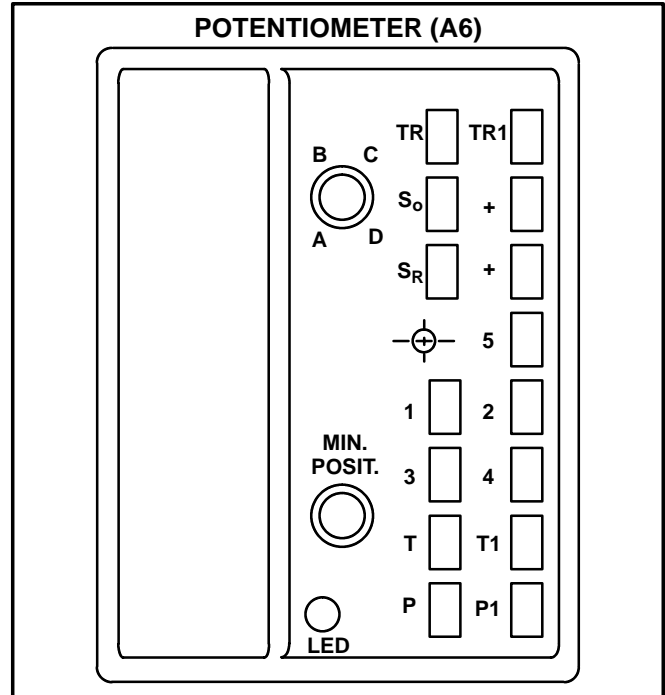

FIGURE 7
- 7 - Remove T and T1 jumper on damper motor, then restore power to unit. Adjust minimum vent position on potentiometer on damper motor. See figure 7.